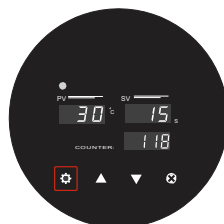

Fig. 7
7. Press Set  button once more (Fig. 7) to record all control panel settings. The platens start heating, and the heating icons are now displayed on the screen (Fig. 8).